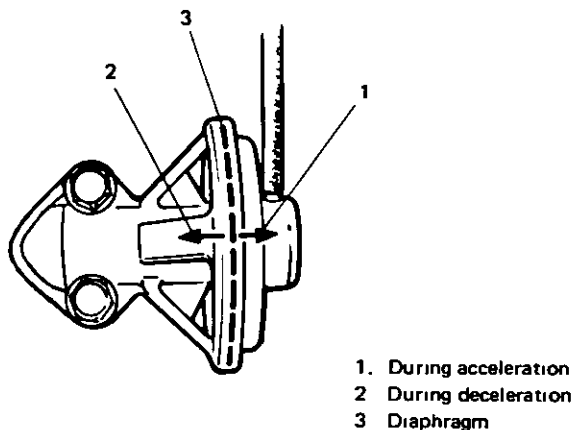

Fig. 5-2-18 Movement of EGR Valve Diaphragm
- 2) Warm up engine to normal operating temperature and race it after warming up. Then check to be sure that diaphragm moves toward ① in Fig. 5-2-18 during acceleration and toward ② during deceleration.